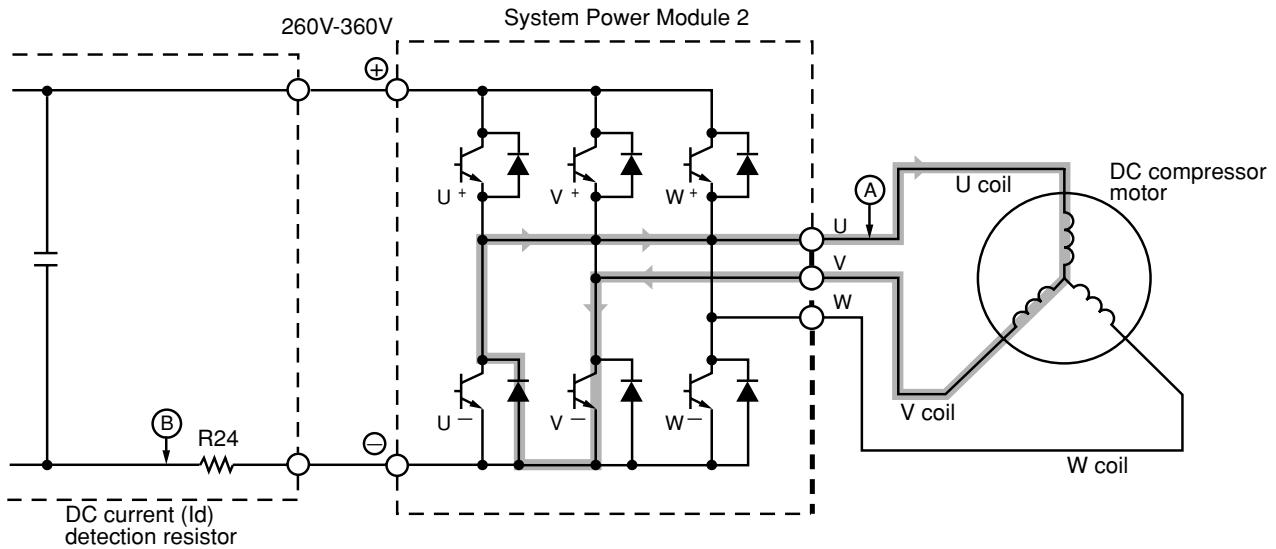

Fig. 3-4 Power module circuit (U^+ is ON, V^- is ON)
- When U^+ transistor is OFF: (by inductance of motor coil) U coil → V coil → V^- transistor → Return diode → Point (A) (Fig. 3-4)